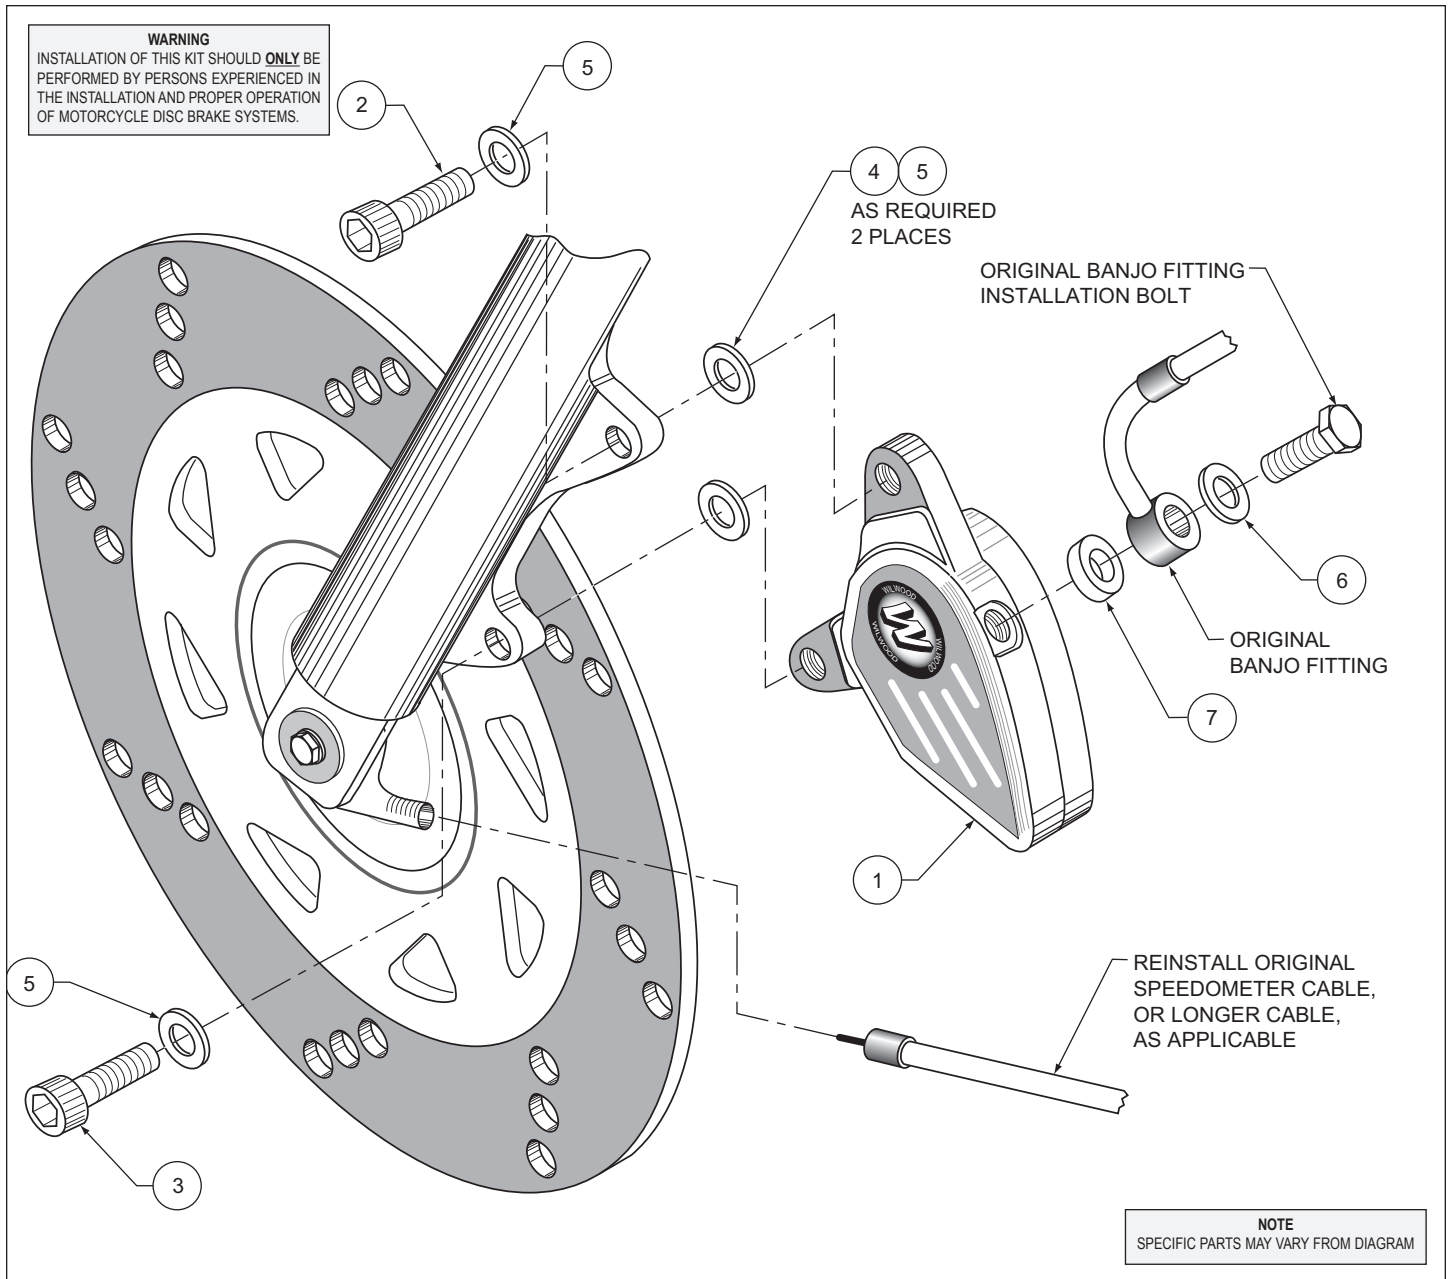

Figure 1. Typical GP 300 Front Caliper Installation
Before attaching the caliper to fork, install the banjo fitting onto the Wilwood caliper utilizing the stock bolt and the new washers (6 and 7). The thinner washer (6) goes on the top and the thicker washer (7) is used on the bottom. Refer to Figure 1 as necessary. Align the fitting to the same position as the OEM caliper was. Using a torque wrench equipped with a 3/8 inch socket (12 point), tighten the banjo fitting bolt to 380-400 **in-lb**.